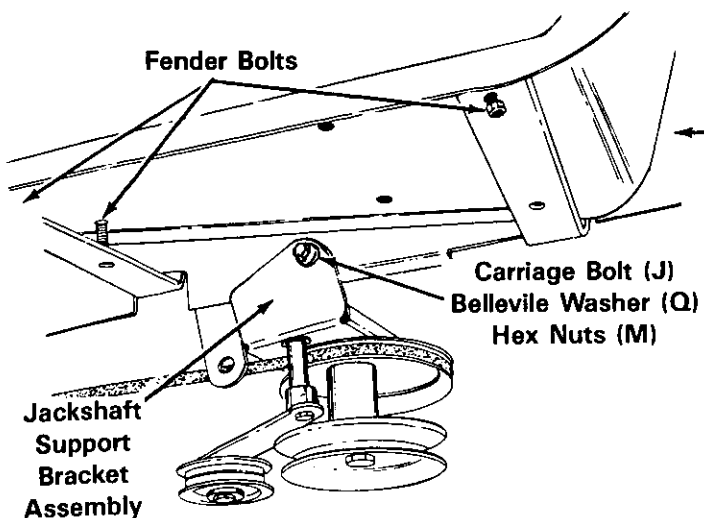

FIGURE 7
- A. **All units except models 1015 and 1020:** On the left hand side of tractor, loosen the three fender bolts and lift up on fender. See figure 7.
- B. Place the jackshaft support bracket assembly in position over the square hole on side of frame. Secure with one carriage bolt (J), belleville washer (Q) and hex nut (M). See figure 7.